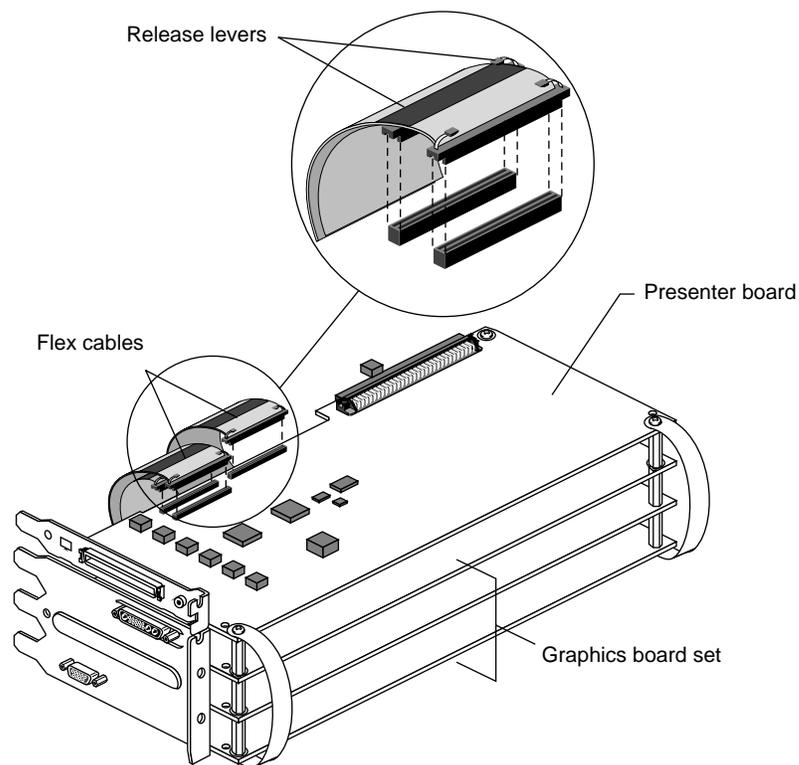

Figure 1-31 Attaching the Flex Cables to the Board
2. Attach the two flex cables to the corresponding connectors on the Presenter board, as shown in Figure 1-31.
Note: Slide the top cable through the levers of the lower cable of the four-connector cable before you connect the cables to the board. See Figure 1-31.